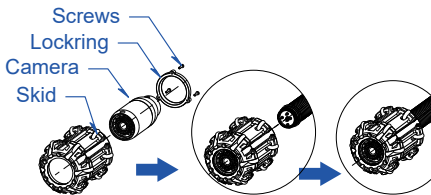

Figure 13. 72 Roller skid
- 1) Install 72 Roller Skid. (See Figure 13)